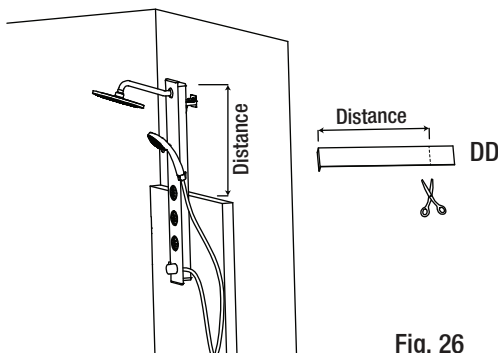
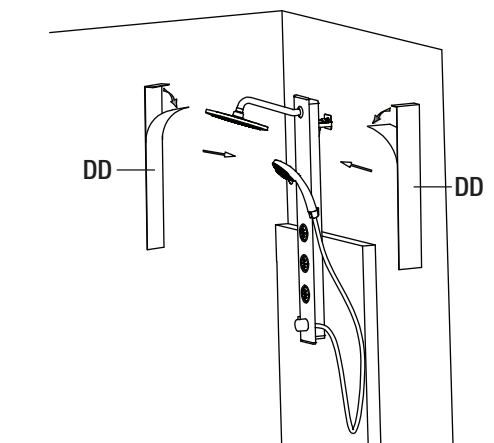

Fig. 26
Fig. 27
- Measure the length of the gap between the top of the shower panel and the stall, see Fig. 26.
- Cut both aluminum covers (DD) with scissors to desired length.
- Remove the paper backing from the aluminum covers (DD) then stick them on the gap from the panel to the wall.
- Stick the aluminum covers (DD) in place, see Fig. 27.